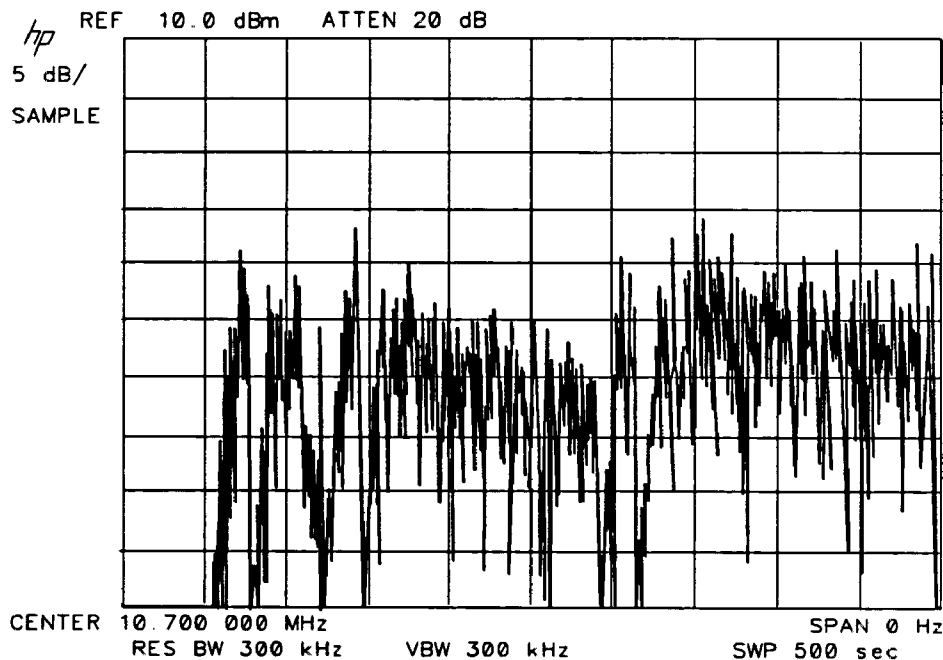

Figure 9-9. Noisy Signature
- **Entire Signature Noisy:** If the signature resembles Figure 9-9, suspect a broken First Step Gain Stage or a break in the signal path in the Input Switch, First Crystal Pole, or Second Crystal Pole.